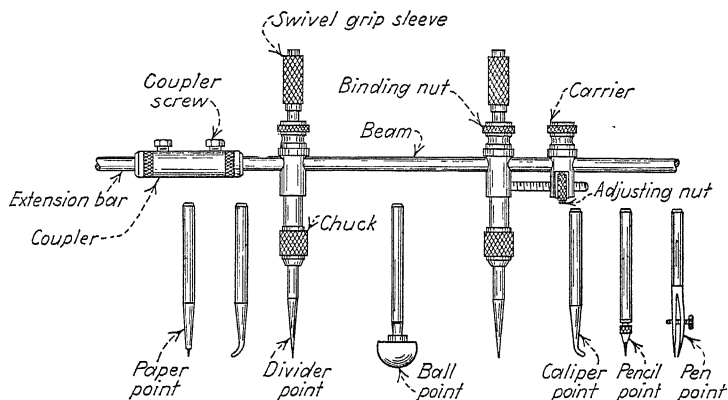

FIG. 218.—Trammels or Universal Dividers. (Courtesy of The L. S. Starrett Company.)
To set the divider place one point in a convenient graduation line on a scale (for example the 1-in. line) and adjust the other point until it exactly splits the graduation line the correct distance away. Since the graduation lines are V shaped a divider may often be set more nearly exact by feeling than by seeing. Adjust it until no "give" can be felt either side of the V. Check with a magnifying glass if desirable. When the divider is fully opened the exact adjustment is difficult because of the wide angle, consequently a larger divider will be better, or possibly trammels (Fig. 218).
16. *Trammel Points* (Fig. 218).—Practically a beam compass or divider used for drawing arcs or circles having a large radius. An advantage lies in the fact that the point holders are perpendicular to the surface being scribed. It will be noticed in the illustration that caliper legs, a pencil point, or a pen point may be substituted for the divider points. Also a ball is